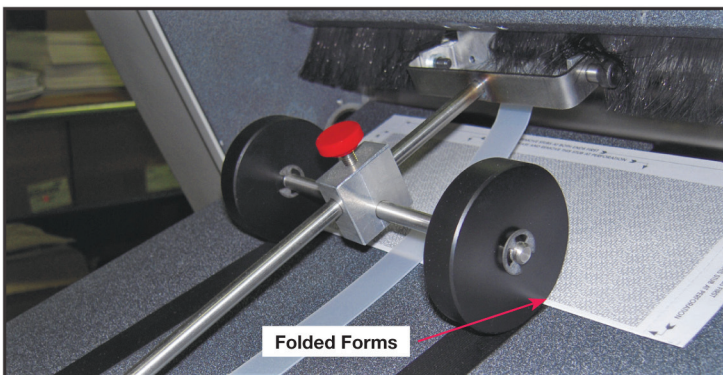

Figure 12: Exit Guide Wheel Adjustment
3. Move the *Exit Guide Wheels* so they just touch the front edge of the form (see Figure 12).